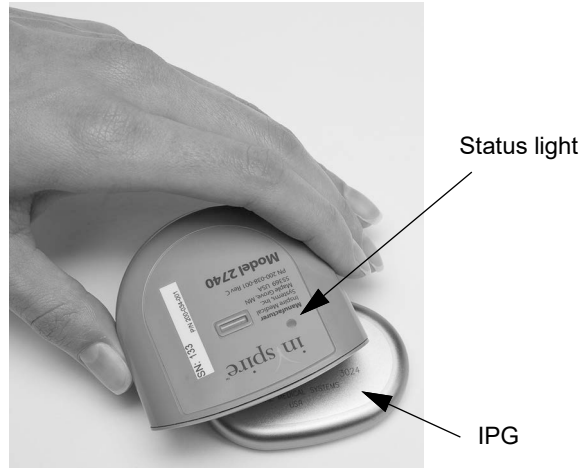

Figure 3-7. Correct Positioning of Telemetry Head over IPG
3. Position the telemetry head directly over the IPG (Figure 3-7).
A status light is located on the top of the telemetry head (Figure 3-7) so that it can be observed when the telemetry head is positioned over the IPG. The colors of the status light correspond to the strength of the telemetry signal and are described in Table 3-2.